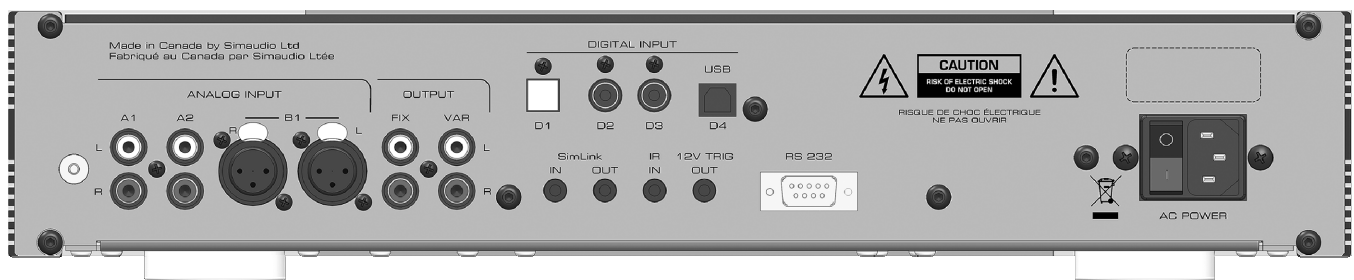

Figure 2: Nêo 430HA Rear panel
The rear panel will look similar to Figure 2 (above). There are two (2) pairs of single-ended analog inputs on RCA connectors labeled “A1” and “A2” followed by one (1) pair of balanced analog inputs on XLR connectors labeled “B1”. The RCA input and output connectors on the rear panel have been color coded: ‘white’ for the left channel and ‘red’ for the right channel.